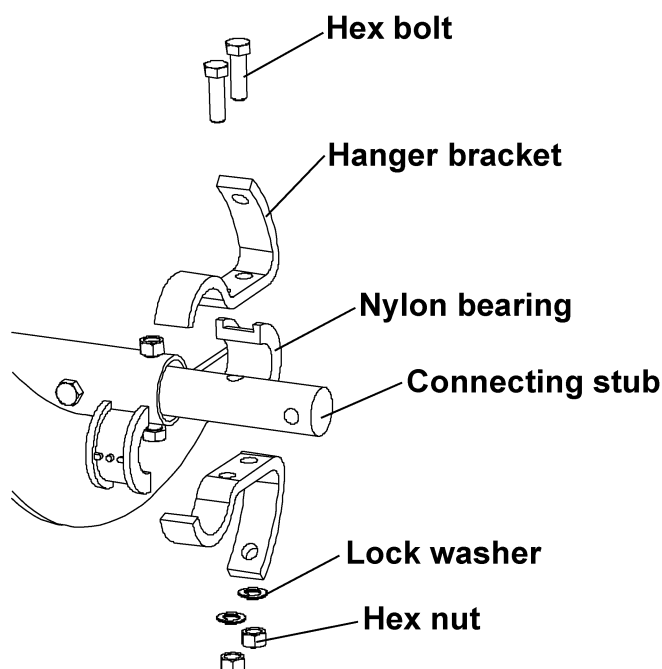

Figure 5D
- A. Bolt the nylon bearings and hanger brackets to the connecting stubs using hex bolts, lock washers and hex nuts as shown in Figure 5D.